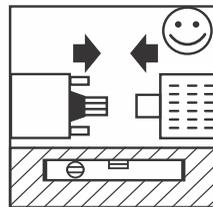

Fig.: 10
1. Place motor and pump horizontally and level (fig.10, See Pg 10).